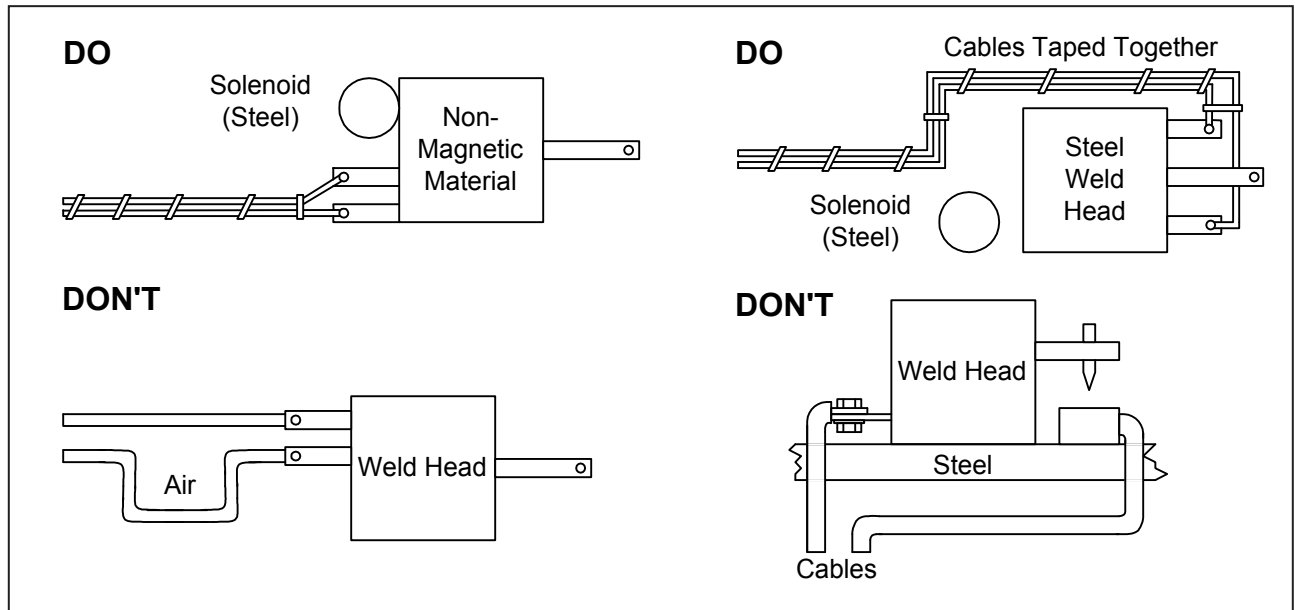

Figure 2-3. Examples of Cable Routings
- d Route cables so that they do not surround magnetic materials such as air solenoids, tooling, or steel weld heads. See figure 2-3.